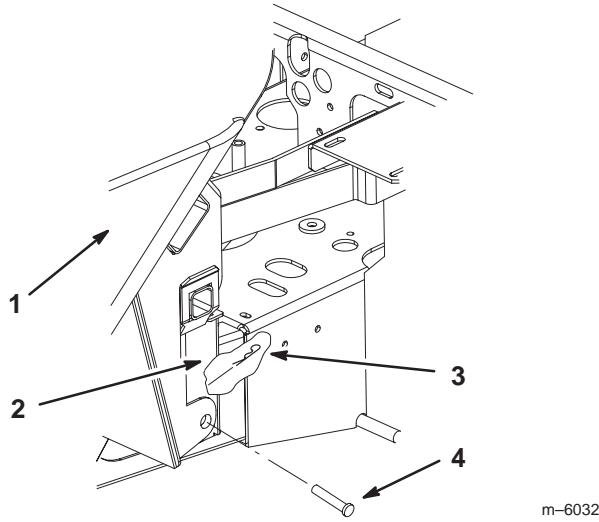

Figure 17
3. Install the bagger onto the bagger mounting bracket (Fig. 17).
4. Install clevis pins into the bagger and bagger mounting bracket. Secure with hairpin cotter pins (Fig. 17).